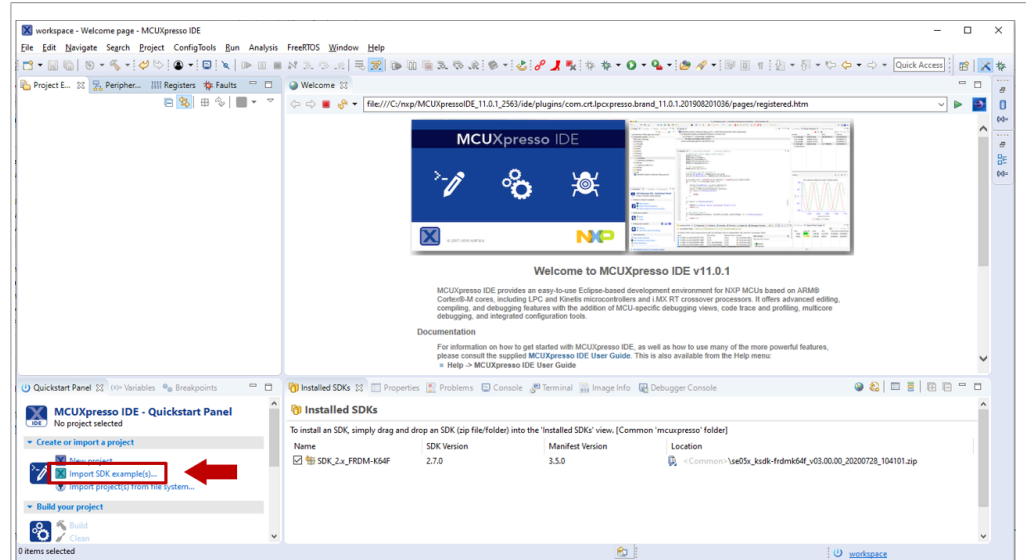

Figure 6. Import projects from SDK
1. Click *Import SDK example(s)* in the MCUXpresso IDE quick start panel as shown in Figure 6